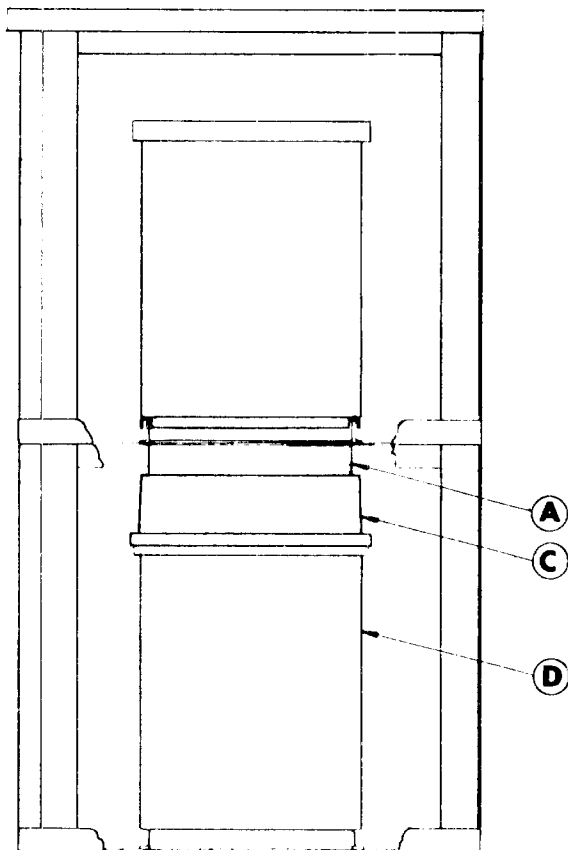

FIG. 3
4. Replace cube chute (D) in bottom cuber and slide cover (C) down over cube chute, as shown in Fig. 3.
5. Route upper machine thermostat bulb (E) thru cap (F) and together with lower machine thermostat bulb (G) push thru cap (H) and feed tubes into combination cube deflector and bulb holder at right side of bin. This will provide two independent ice making systems.